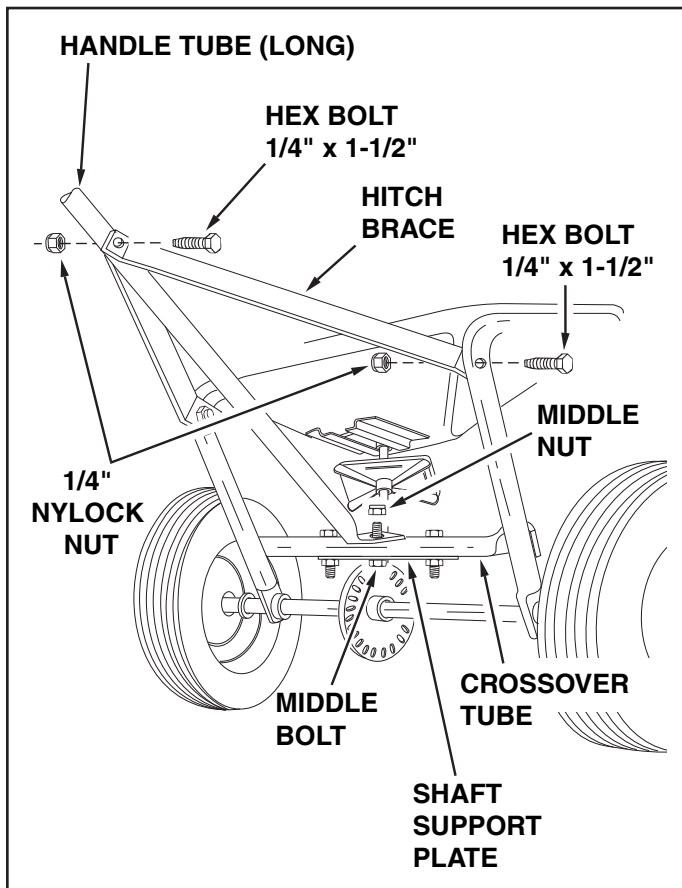

FIGURE 5
- Assemble two handle braces to the inside of the hopper frame, one on each side, using two 1/4" x 1-1/2" hex bolts and two 1/4" nylock nuts. See figure 5. **Do not tighten at this time.**
- Assemble the other end of the two handle braces to the long handle tube using a 1/4" x 1-1/2" hex bolt and 1/4" nylock nut. **Do not tighten at this time.** See figure 5.
- Tighten** all nuts and bolts in same sequence as assembled in steps 9 through 11. See figure 5.